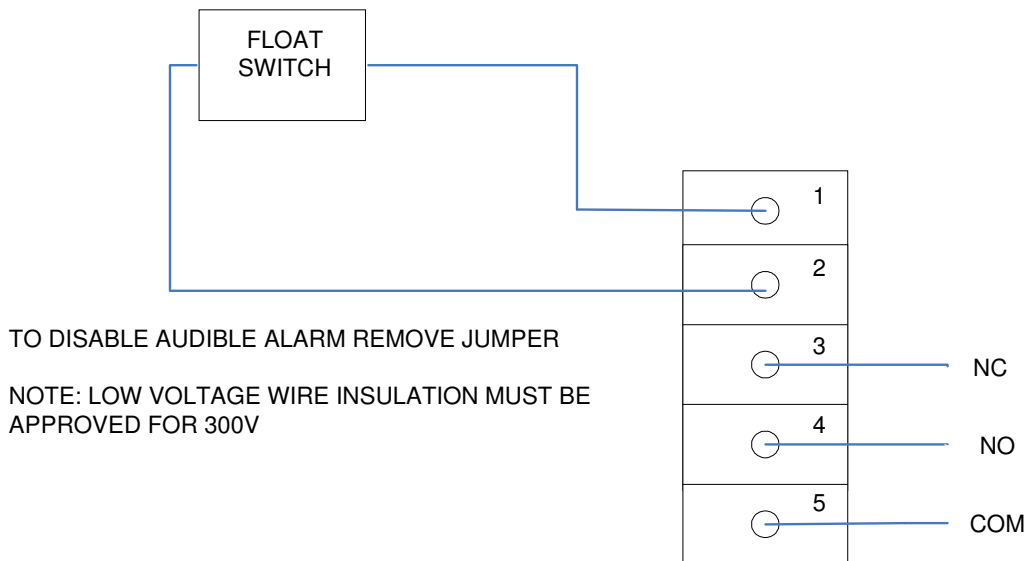

Figure 6: High level float connection from NT1-P to RIA10-1-SAA alarm panel
2. Remove the drain hose from the inlet hole. Uninstall the check valve from the main plate (see figure 6 below). Disassemble the outlet piping from the check valve. Clean the check valve and be sure that the ball inside of check valve moves freely.